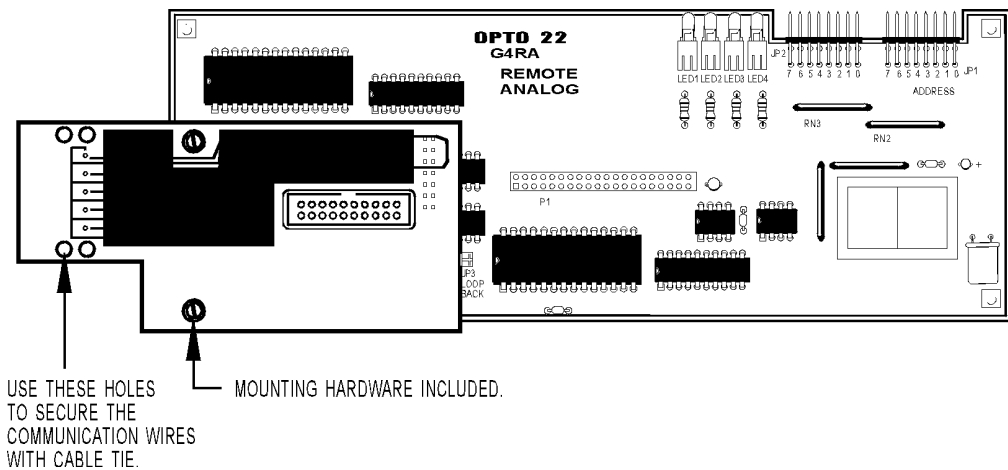

Figure 3-7: SBTA Installation and Wiring
- The SBTA includes mounting hardware to secure it to the brain board. See Figure 3-7.